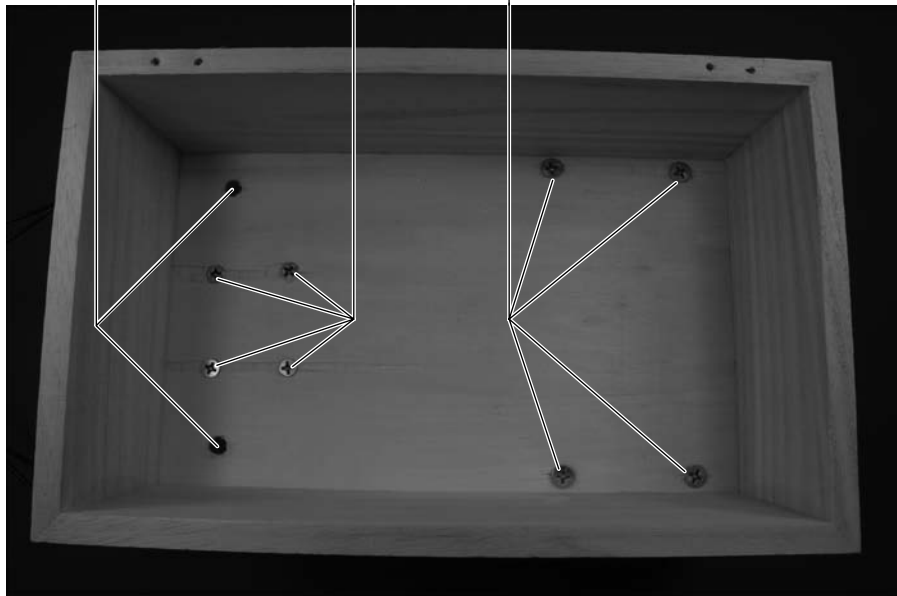

Figure 13-29:
2. Drill holes for the 6-32 screws used to mount the castor, as shown in Figure 13-29.
3. Mark a location about an inch to each side of the castor and drill holes with a 1/4" bit to feed the wires to the motors and sensors, as shown in Figure 13-29.
4. Using a mending brace to mark the four holes you will drill in the box to mount the motors, drill holes for 8-32 screws, as shown in Figure 13-29.